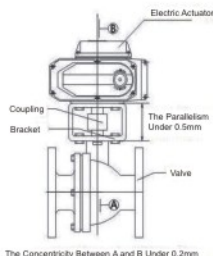

Fig.4
- ◆ Bracket, coupling should follow the requirement as design and machining by technician as (Fig. 4)